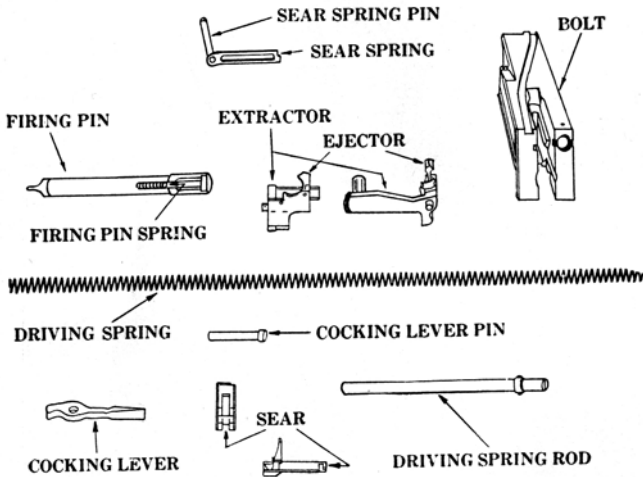

Figure 5. — Bolt group.
a. Turn the extractor up and remove it to the left (fig. 5).